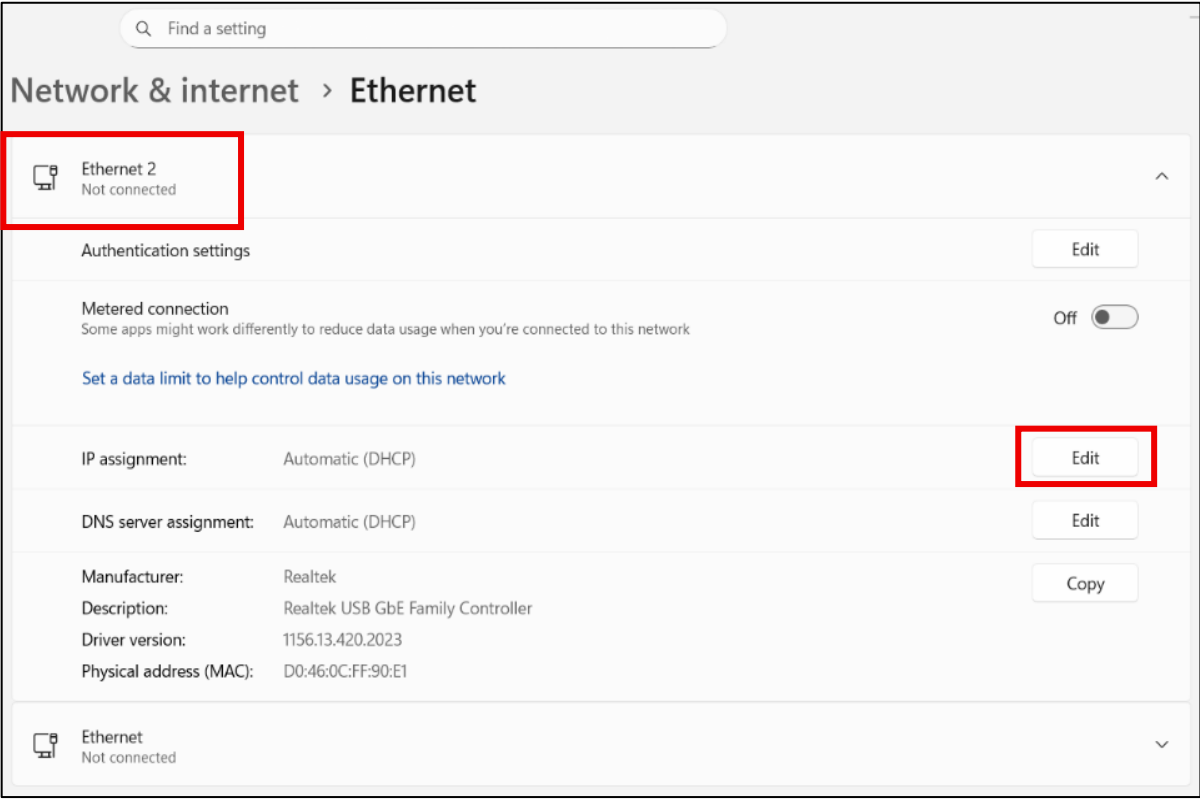

Figure 1: Network setting W1
- III) In IP assignment, click on **Edit**, see Figure 1: Network setting W1